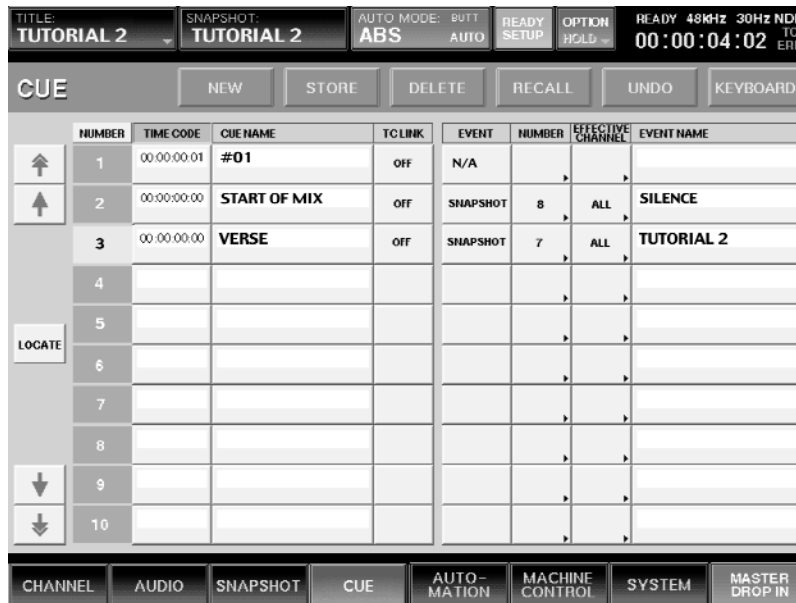

Figure 3
- 4 Press the NEW button again and assign the "Tutorial 2" snapshot to CUE 3, then rename the cue "VERSE". Again, set TC LINK to OFF. (See Figure 3)